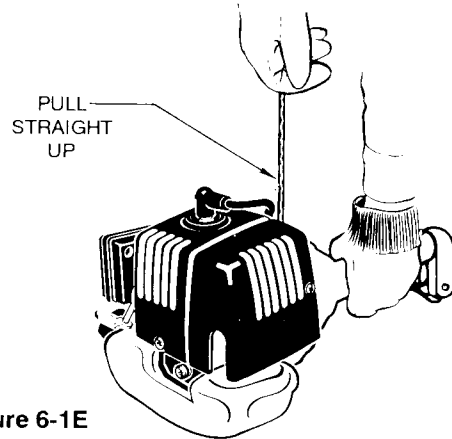

Figure 6-1E
4. Pull starter rope out a short way until resistance is felt (approx. 4 inches). Pull starter rope briskly 4 times. A smooth rapid pull is required for a strong spark. (Figure 6-1E)